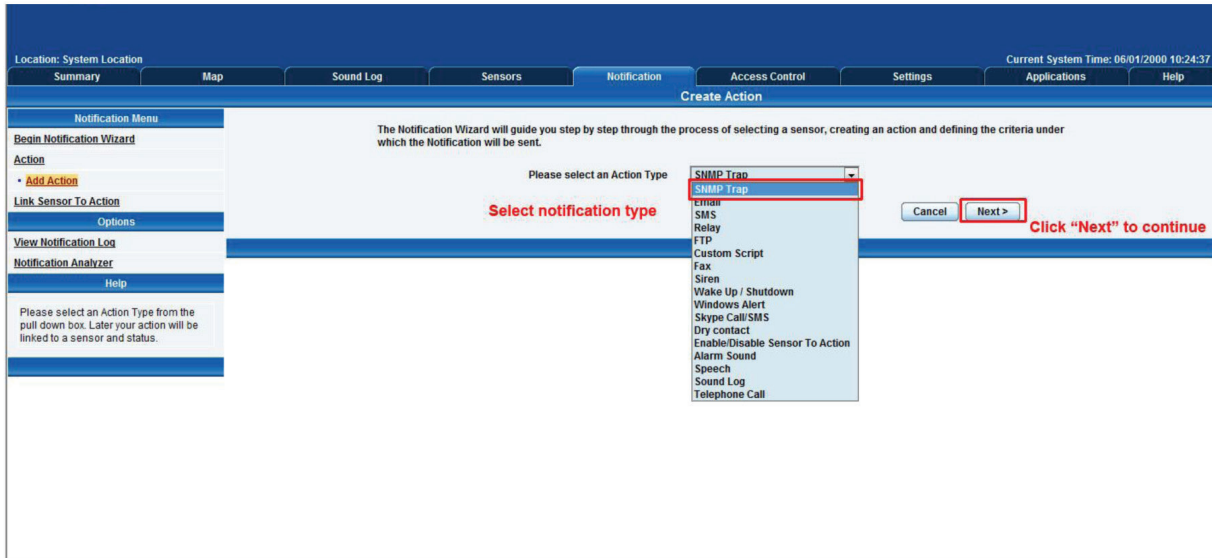

Figure 4-2. Notification Wizard page.
2. The Notification Wizard page will be displayed as shown in Figure 4-2.